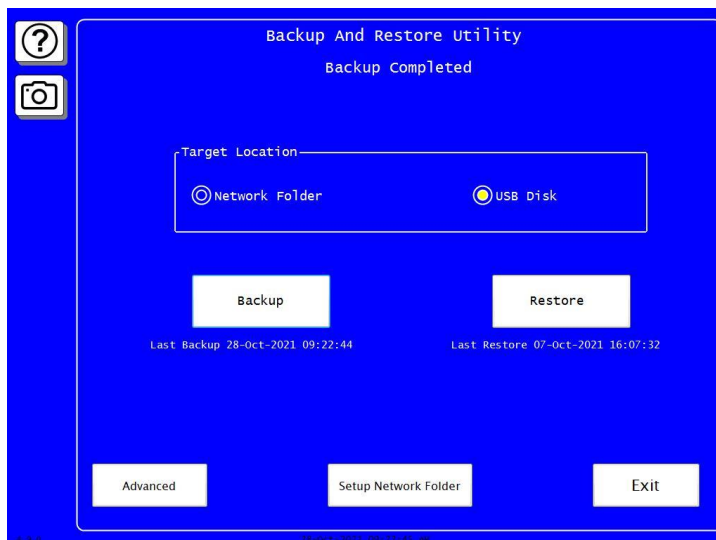

Figure 12. Backup/Restore Control Menu Showing Backup Completed.
8. When the backup is complete, the following message displays: “Backup Completed” as shown in Figure 12.